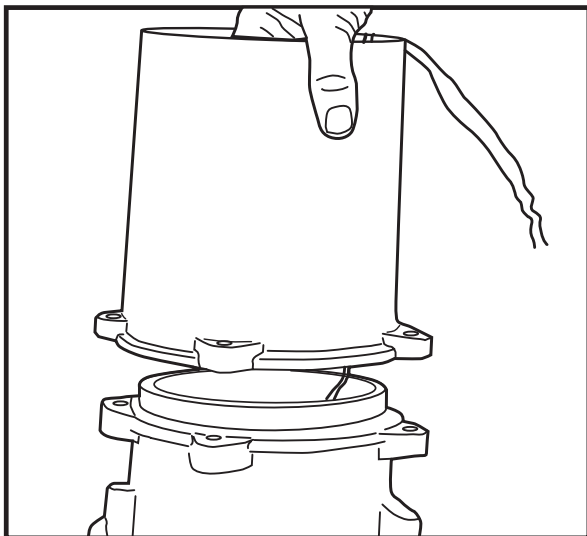

Fig. 37
6. Remove bolts from motor stator housing and lift off casting. **Please Note:** Bearing housing contains two finger spring washers which may fall out of casting when removed. The red and the orange seal failure wires will pull out of hole in stator. See Figure 37.